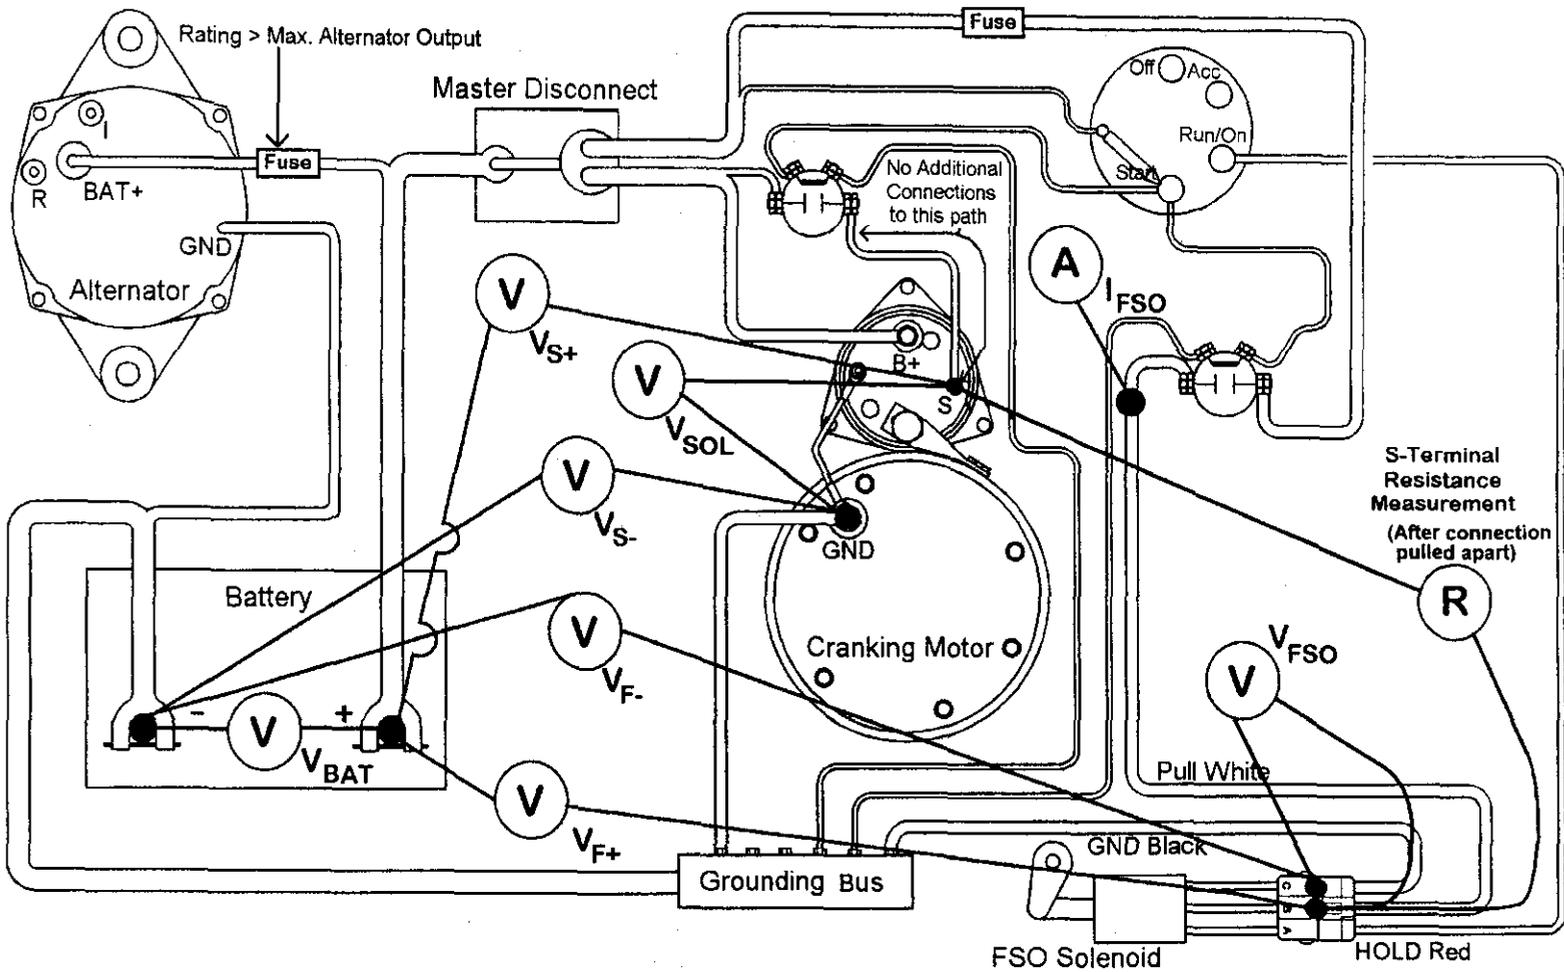

Figure 1: Run, Stop, and Crank Controls "Where to Measure"
1. Instrument a means to measure battery voltage (see Figure 1).
2. Instrument a means to measure starter solenoid voltage (see Figure 1).
3. Instrument a means to measure starter solenoid positive wire voltage drop. The connection points of this measurement should be the battery positive terminal and the starter solenoid "S" terminal (see Figure 1).
4. Instrument a means to measure starter solenoid ground circuit voltage drop. The connection points of this measurement should be the starter ground connection and the battery negative terminal (see Figure 1).
1. Instrument a means to measure fuel shutoff solenoid pull in current. The use of a clamp on current probe is recommended (see Figure 1).
3. Instrument a means to measure battery voltage (see Figure 1).
4. Instrument a means to measure FSO solenoid pull coil wire voltage drop. The measurement points for this are the battery positive terminal and the FSO solenoid pull coil measurement point used for getting the pull coil voltage (see Figure 1).
5. Instrument a means to measure FSO solenoid ground circuit voltage drop. The measurement points for this are the FSO solenoid ground measurement point used for getting the pull coil voltage and the battery negative terminal (see Figure 1).